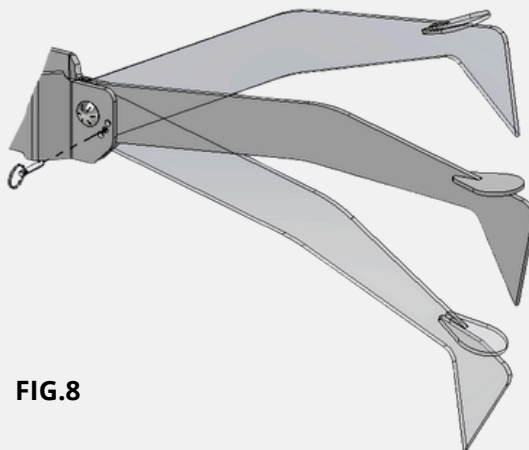

FIG.8
- Adjust using the Front Leg Quick Pin Adjustment. Before doing this, you should remove the 2x4 holding the target as it is too heavy to adjust with the steel installed. Remove the 1" Quick Pin, adjust the angle, and re-install the Quick Pin. There are 3 locating holes in the front base and 6 holes in the front foot; this gives you adjustment in intervals of 5 degrees each. Use the front foot and the adjustment holes to adjust the stand angle, as shown in FIG. 8